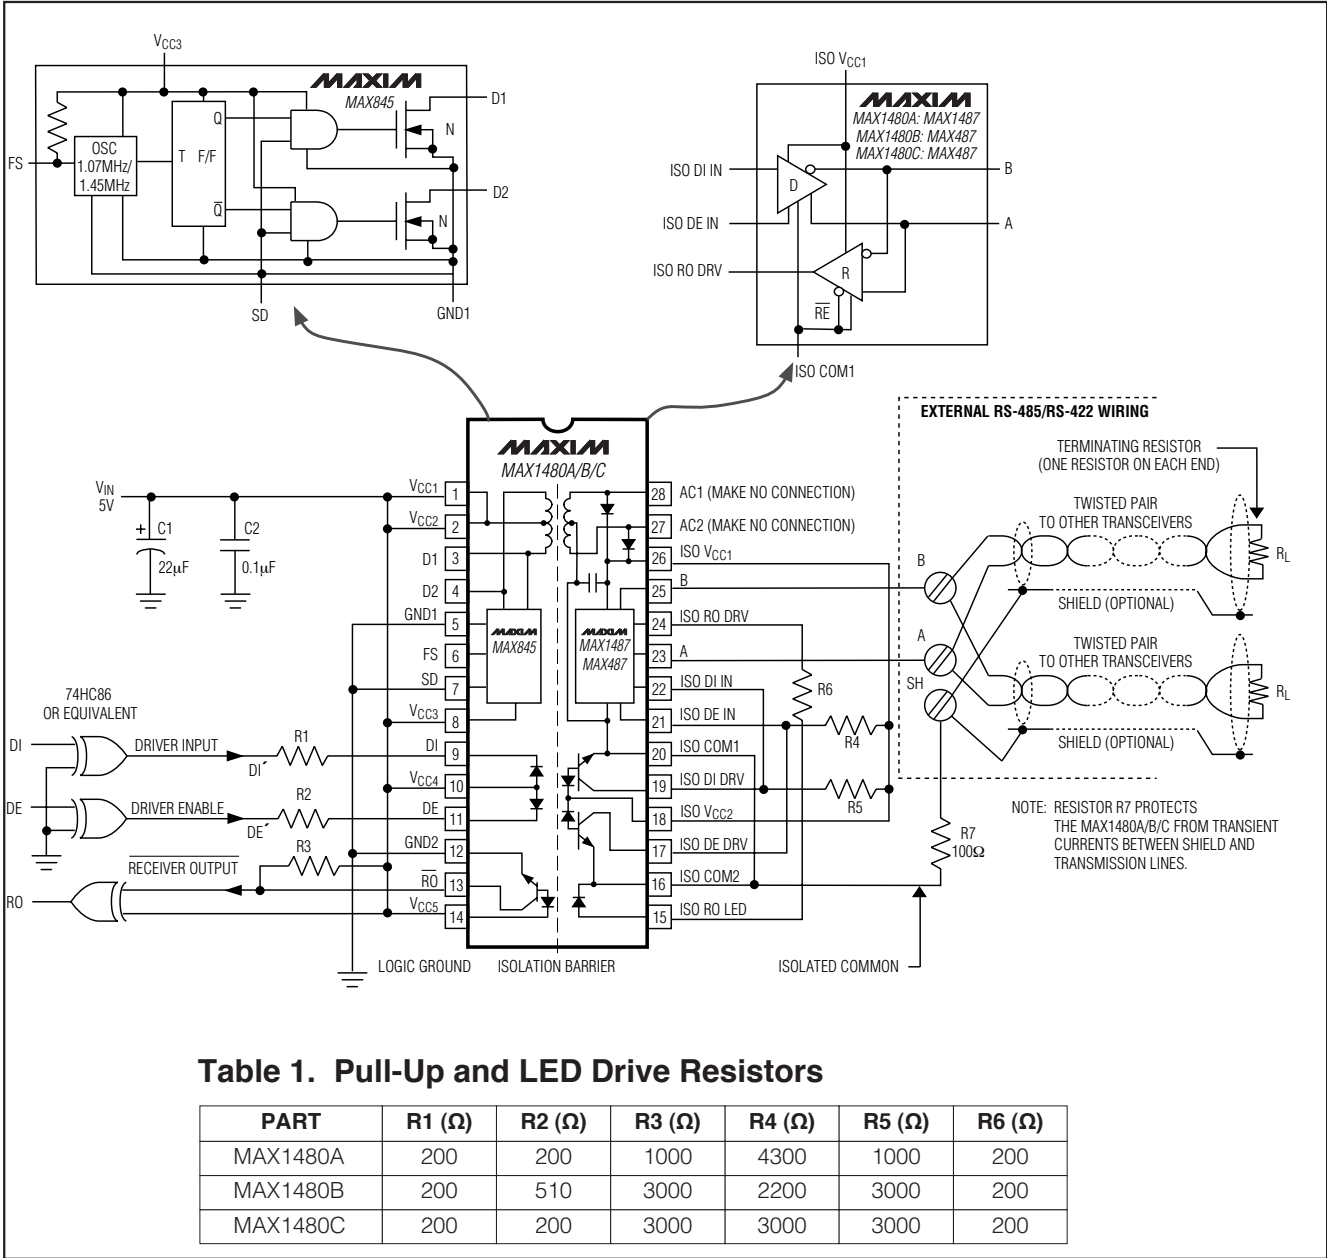
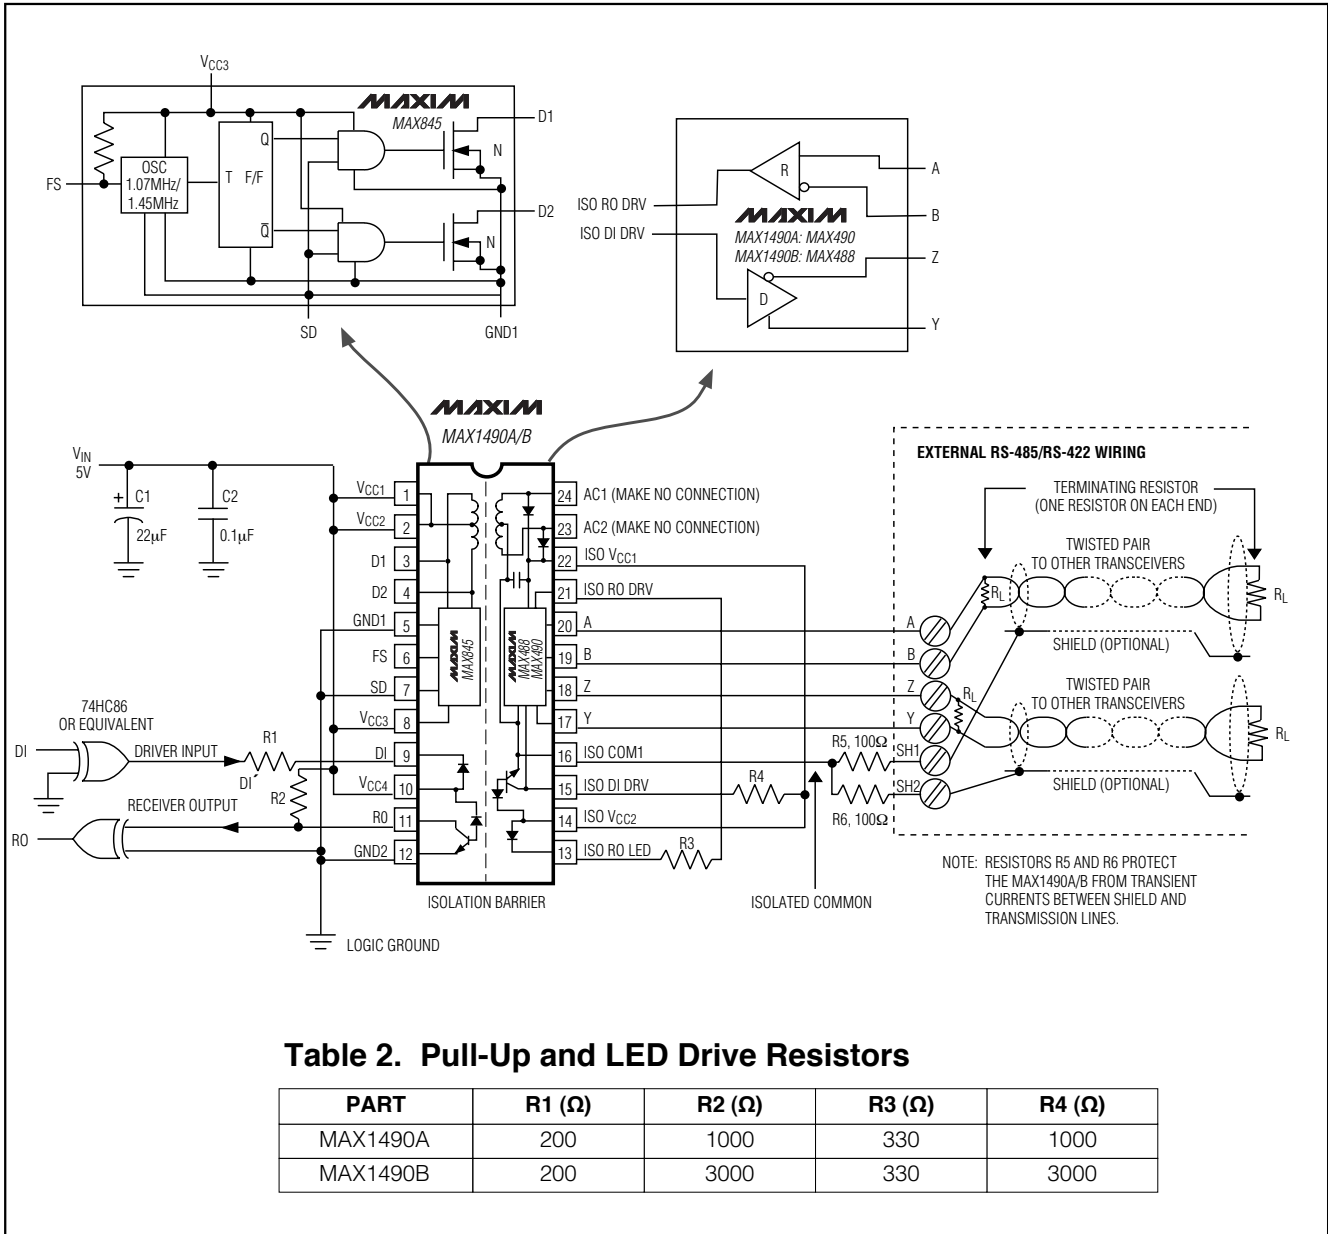

Figure 1. MAX1480A/MAX1480B/MAX1480C Detailed Block Diagram and Typical Application Circuit
Figure 2. MAX1490A/MAX1490B Detailed Block Diagram and Typical Application Circuit
Note 2: For DE⁺ and DI⁺ pin descriptions, see *Detailed Block Diagram and Typical Application Circuit* (Figure 1 for MAX1480A/MAX1480B/MAX1480C, Figure 2 for MAX1490A/MAX1490B).
Note: For DE⁺ and DI⁺ pin descriptions, see *Detailed Block Diagram and Typical Application Circuit* (Figure 1 for MAX1480A/B/C, Figure 2 for MAX1490A/B).
The MAX1480A/MAX1480B/MAX1480C/MAX1490A/MAX1490B are complete, electrically isolated, RS-485/RS-422 data-communications interface solutions. Transceivers, optocouplers, a power driver, and a transformer in one standard 28-pin DIP package (24-pin for the MAX1490A/B) provide a complete interface. Signals and power are internally transported across the isolation barrier (Figures 1, 2). Power is transferred from the logic side (nonisolated side) to the isolated side of the barrier through a center-tapped transformer. Signals cross the barrier through high-speed optocouplers. A single +5V supply on the logic side powers both sides of the interface. The MAX1480A/B/C offer half-duplex communications while the MAX1490A/B feature full-duplex communication. The functional input/output relationships are shown in Tables 3–6.
* For DE[′] and DI[′] pin descriptions, see *Detailed Block Diagram and Typical Application Circuit* (Figure 1 for MAX1480A/B/C, Figure 2 for MAX1490A/B).
The MAX1480A/MAX1480B/MAX1480C/MAX1490A/MAX1490B are specified and characterized using the resistor values shown in Table 1 of Figure 1 and Table 2 of Figure 2. Altering the recommended values can degrade performance.
The isolated common may be completely floating with respect to the logic ground and the effective network ground. The receiver input resistors will cause the isolated common voltage to go to the mean voltage of the receiver inputs. If using shielded cable, connect the isolated common to the shield through a 100Ω resistor. In the case of the MAX1490, each shield should have its own 100Ω resistor (Figures 1, 2, 13, and 14).